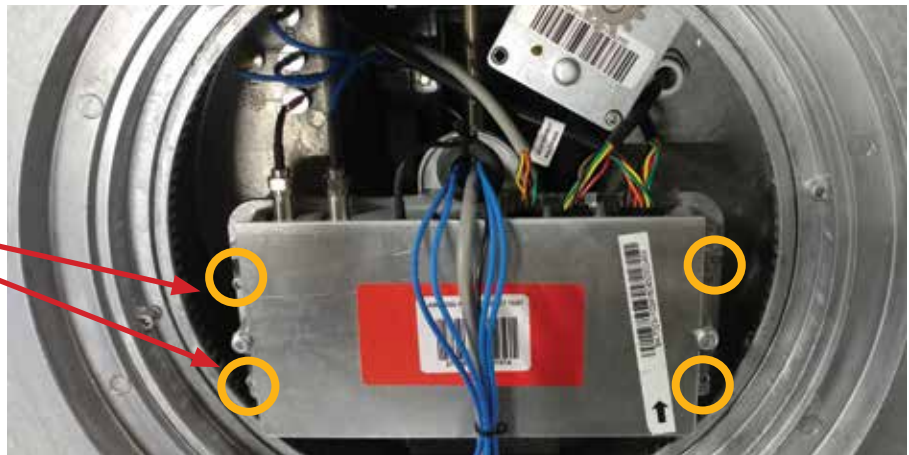

Figure 8
- B) Remove four 5/16" screws from the ODU with the provided 5/16" nut driver (Figure 8).